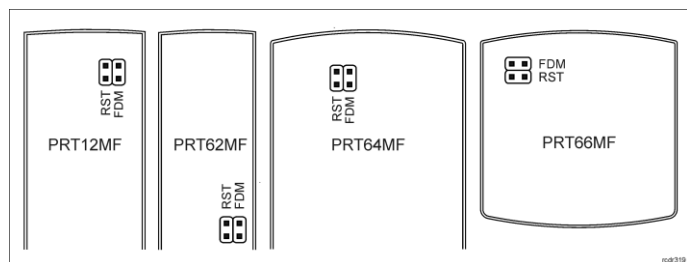

Fig. 2 Service contacts
2. Place jumper on FDM contacts (fig. 2).